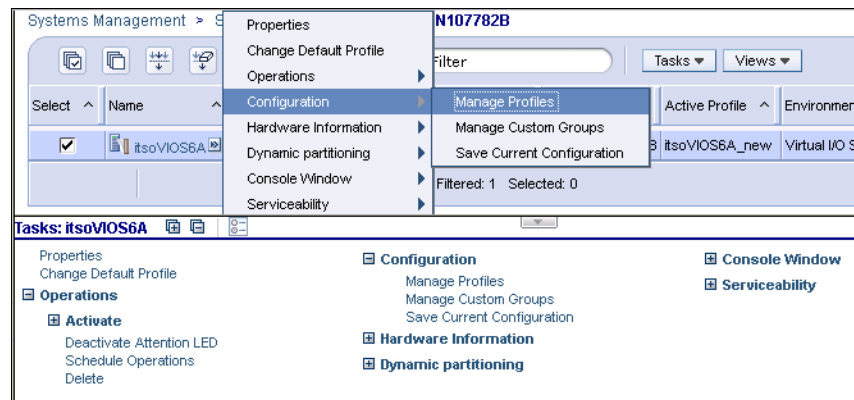

Figure 8-49 Manage VIOS profiles to change settings from HMC
1. Select the newly created VIOS and click **Configuration** → **Manage Profiles**, or, from the Tasks menu, click **Manage Profiles** under Configuration, as shown in Figure 8-49.